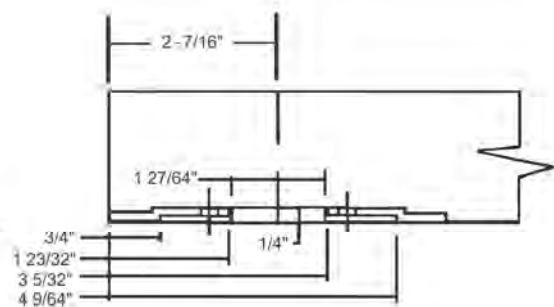

Figure 8-2
- 1-2 To weld two 3mm thick-hold plates on the frame as per Figure 8-2.